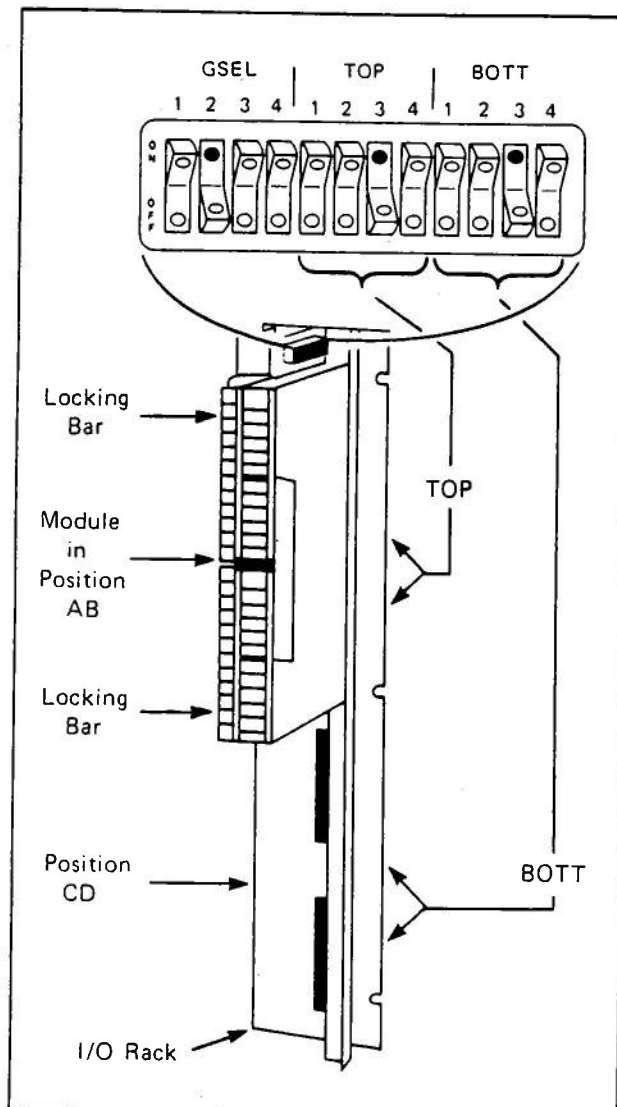

Figure 6 — Vertical Rack Switch Location
Step 1 - Refer to system drawings and determine in which I/O Rack and in which positions in the Rack the Module will be placed. (Although a Module can be placed in either the upper two Positions or lower two Positions, it must not straddle Positions B and C. See Figure 6.)
Step 3 - Move the appropriate Locking Bars on the I/O Rack's built-in terminal blocks to the left to uncover the guide slots on the blocks (Figures 6 and 7).
Rack Switch Settings - Set the desired GSEL switch to ON (see Figure 6 for switch location and Table A for Rack Switch Settings). Set unused GSEL switches OFF.